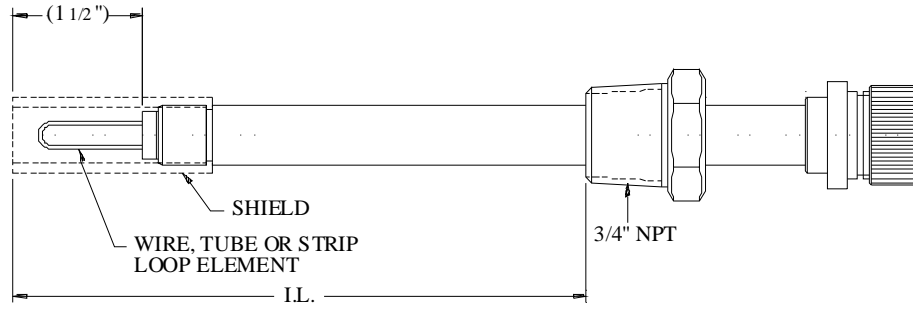

Figure 5. Fixed Length ER Probe
An essential component of the ER Monitoring System, the Electrical Resistance (ER) Probe acts as an environmental bridge between the measuring element immersed in a corrosive media and the atmosphere where the electrical leads are connected. Metal Samples ER probes are available in fixed length or retractable (adjustable) length models and in retrievable models. Figures 5, 6 and 7 show examples of these available probe models. Fixed probes are easier to install than retractable models; however, fixed probe installation and inspection require the process system to be shut down. Installation and inspection of retractable probes does not require a system shut down and these probes are recommended for use in systems that must operate continuously. Retrievable models are used with high pressure access fittings. All Metal Samples ER probes are supplied with MIL environmental electrical connectors unless specifically ordered otherwise.